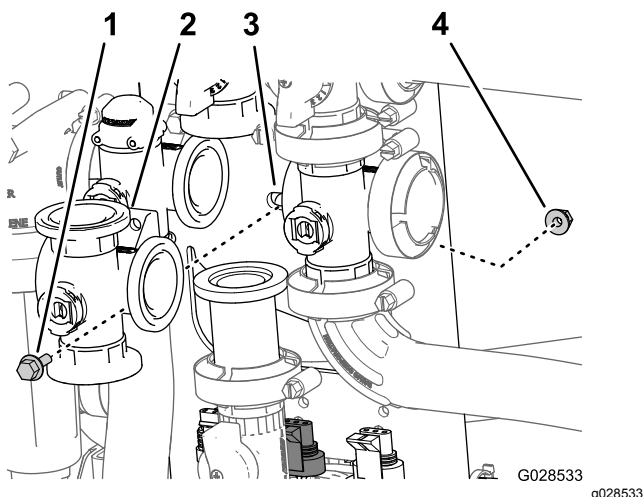

Figure 91
2. Remove the flanged-head bolt and flanged locknut that secures the agitation valve to the valve mount and remove the valve manifold from the machine (Figure 91).